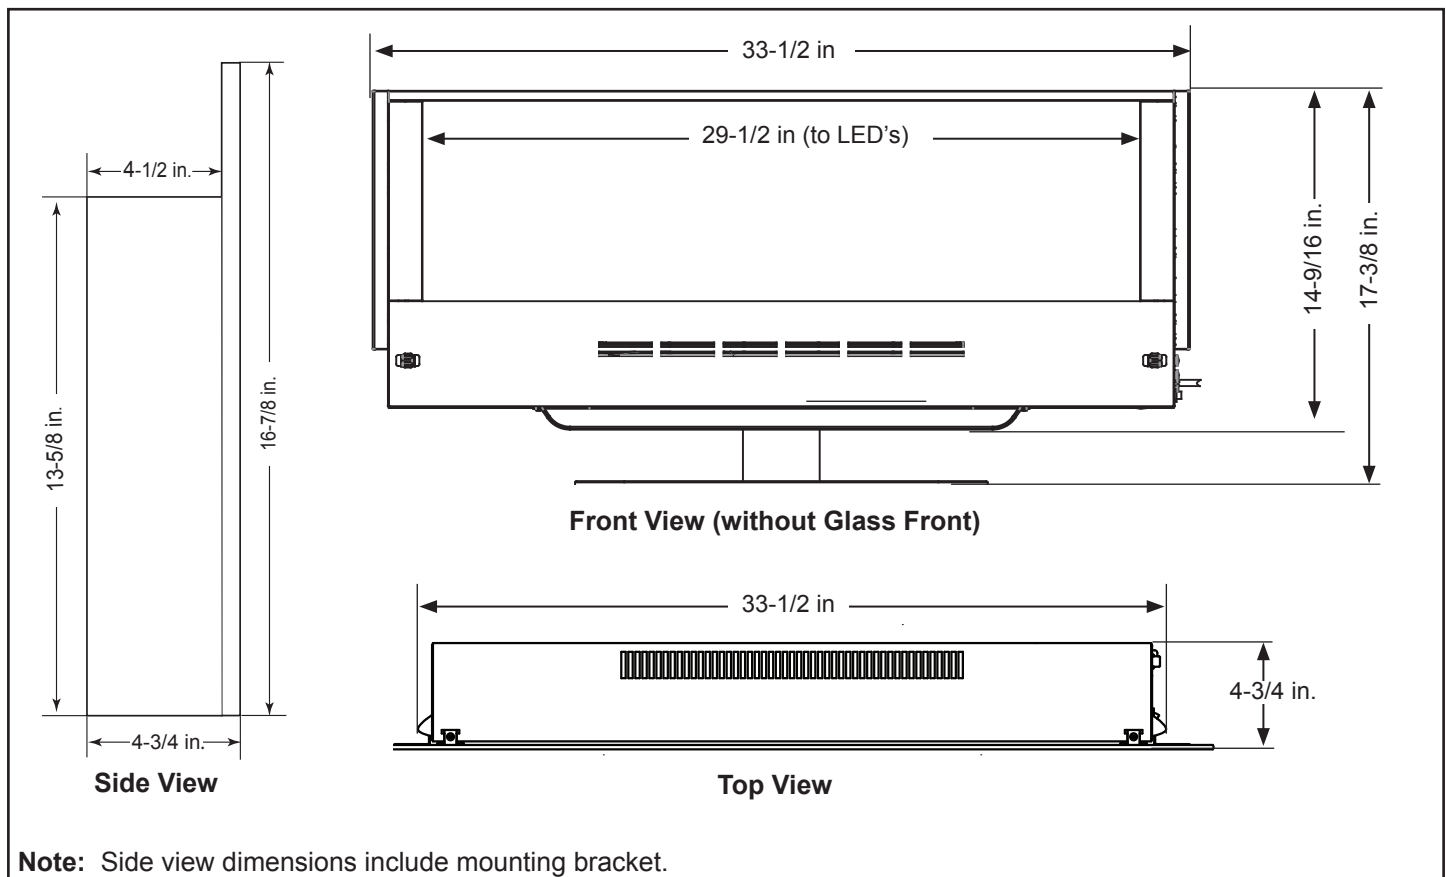

Figure 3.1 Appliance Dimensions
- See Figure 3.1 for appliance dimensions and to determine location of appliance installation.